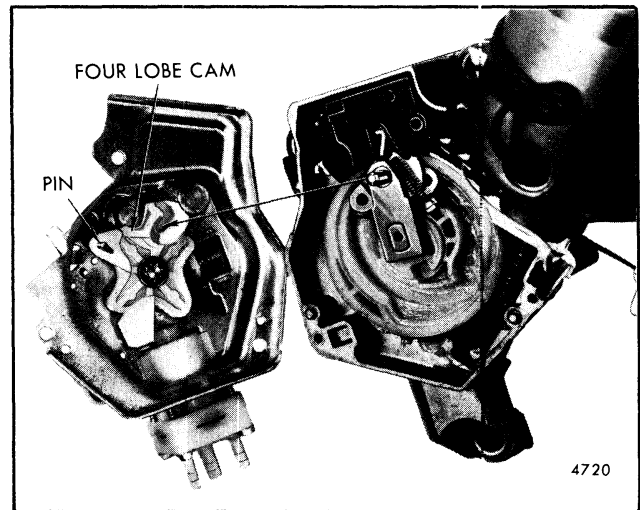

Fig. 2-87-Aligning Pump to Motor
14. Rotate the 4-lobe cam so the index hole is aligned with the hole in the pump mounting plate. Insert a .120" to .125" diameter pin through both holes so the drive slot in the cam will be in the proper position for the drive pin (Fig. 2-87).